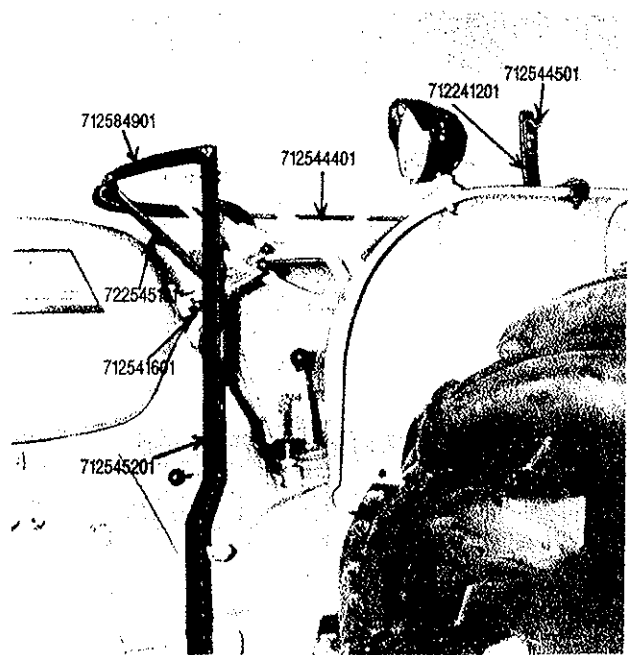

Figure 2
3. Bolt lower end of #712545201 door post to left step as shown in Figures 2 & 5.
7. Bolt #712544501 latch and #712241201 latch stop to left fender behind light as shown in Figures 2 & 7.